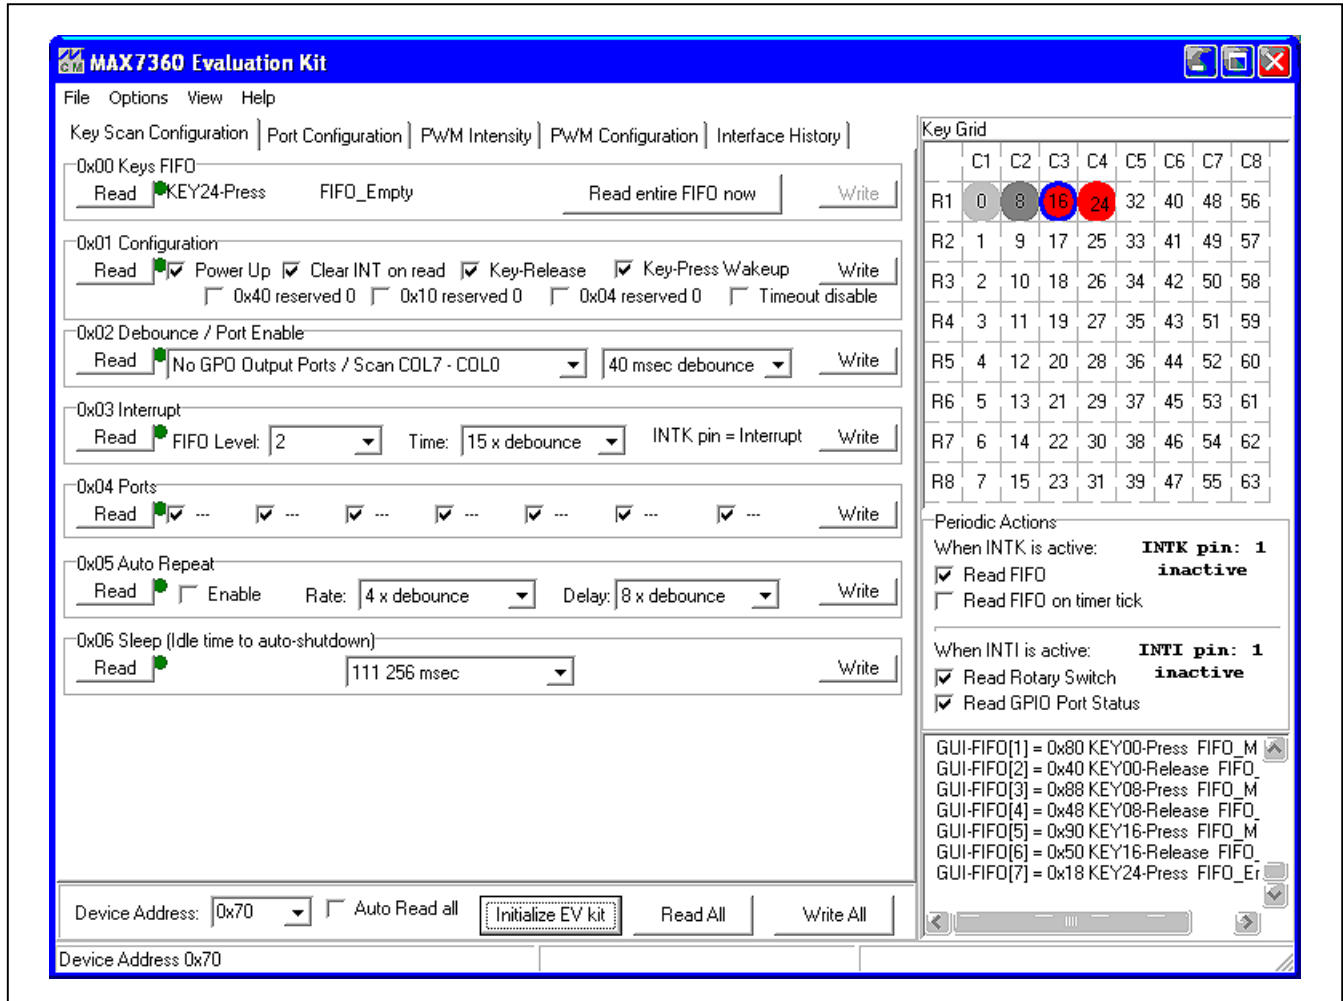

Figure 1. MAX7360 EV Kit Software Main Window (Keyscan ConfigurationTab)
- 7) Start the MAX7360 EV kit software by opening its icon in the **Start | Programs** menu. The EV kit software main window appears, as shown in Figure 1.
The main window of the evaluation software (Figure 1) provides direct access to all registers and controls the interrupt response. The software automatically searches for the MAX7360 EV kit hardware when launched. Once the hardware is found and connected, the I2C **Device Address** is shown in the lower-left corner.
Each of the MAX7360 registers is represented on the software's main window (Figures 1–4). Each register has its own **Read** and **Write** buttons. Pressing the **Read entire FIFO now** button reads register 0x00 repeatedly until the FIFO indicates that all keypress events have been read.
To configure the INTK pin for use as a GPO pin, set both the **FIFO Level** and **Time** combo box of register **0x03 Interrupt** to **Not Used**, then press the **Write** button. When configured for GPO, the INTK pin is controlled from the **0x04 Ports** register (Figure 1).